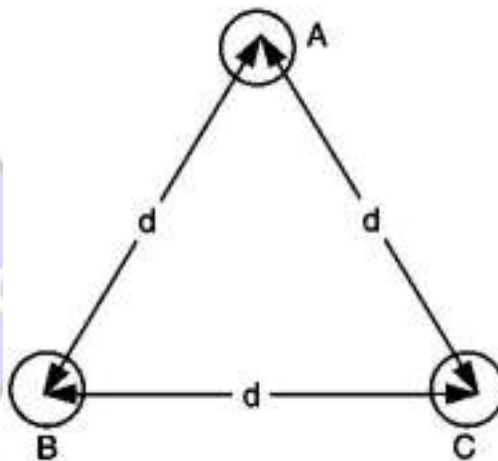

Fig. 23:
- Figure 23 shows the three conductors A, B and C of the 3-phase overhead transmission line having charges  $q_a$ ,  $q_b$  and  $q_c$  per meter length respectively.